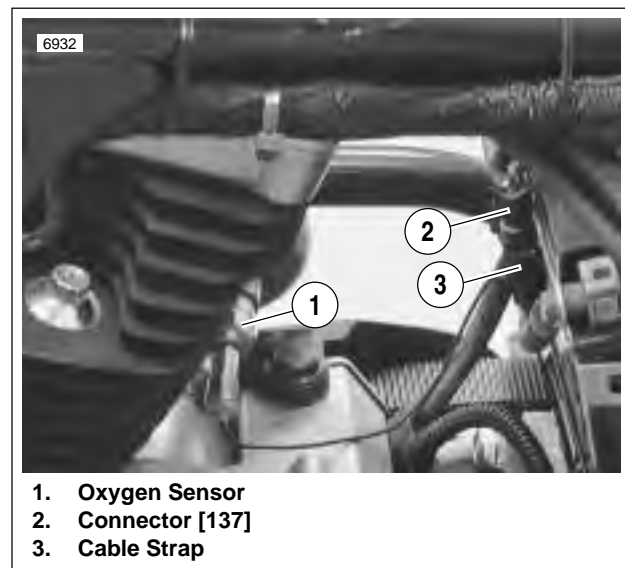

Figure 4-43. Oxygen Sensor Installed
- **Loose O2 sensor.** See Figure 4-43. If the O2 sensor is loose engine performance may be affected. This could also show up as a slow changing O2 sensor voltage on the Scanalyzer.